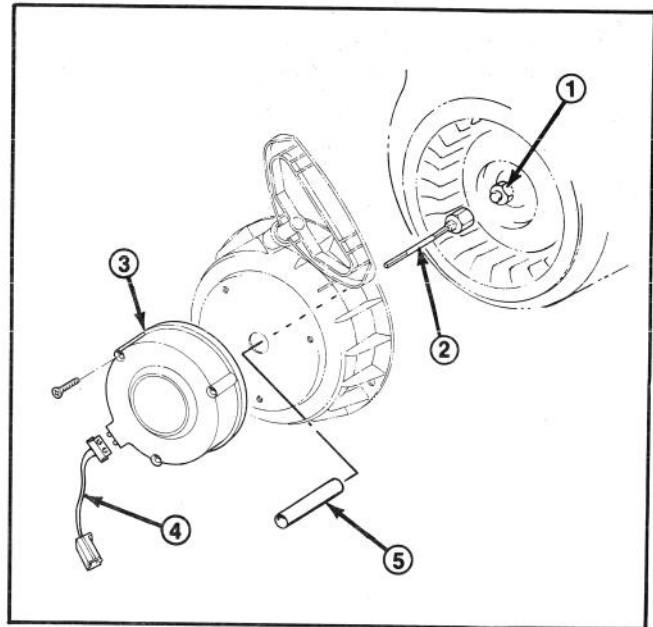

Figure 4
4. Locate (3) depressed drill starts in front side of housing (Fig. 4).